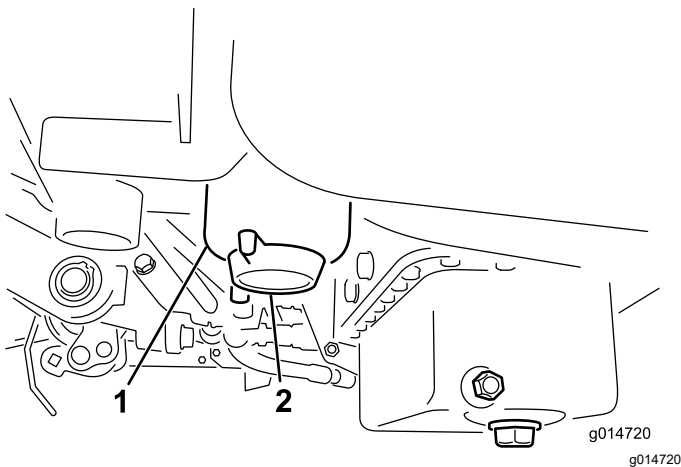

Figure 33
2. Clean the area where the filter canister mounts (Figure 33).
4. Open the filter drain plug (Figure 33).